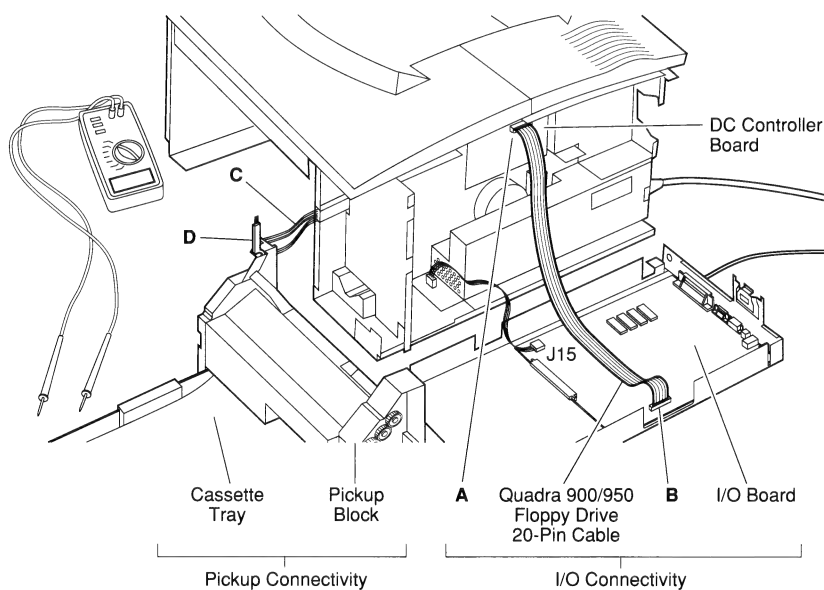

Figure 9 Maintaining Connectivity
When you remove the I/O shield, you disrupt the connection between the I/O board and the DC controller board, thus preventing the printer engine from communicating with an external computer. When it is necessary to maintain this connection during troubleshooting (for example, to force a feed cycle from the multipurpose tray or to change settings with the LaserWriter Utility), you must remove the printer interface cable and temporarily install a Quadra 900/950 floppy drive 20-pin cable between connectors A and B, as shown in Figure 9. This cable has the extra length needed for the I/O shield to rest flat on the work surface. Do not disconnect power supply cable J15, the I/O-CPU cabling, or the AC power cable.
3. Reconnect cables J601 and J603 (C in Figure 9).
5. Press down the top cover interlock actuator and force the interlock switch closed by wedging in the hooked end of the green cleaning brush (D in Figure 9).